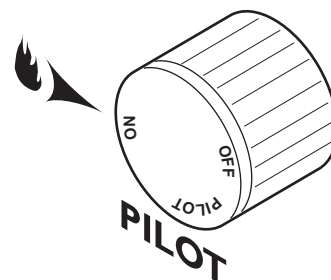

Figure 44 - On Position
Depress and turn the knob counterclockwise  to the “ON” position. *See Figure 44.* It will take less than four (4) seconds for the burner to ignite.